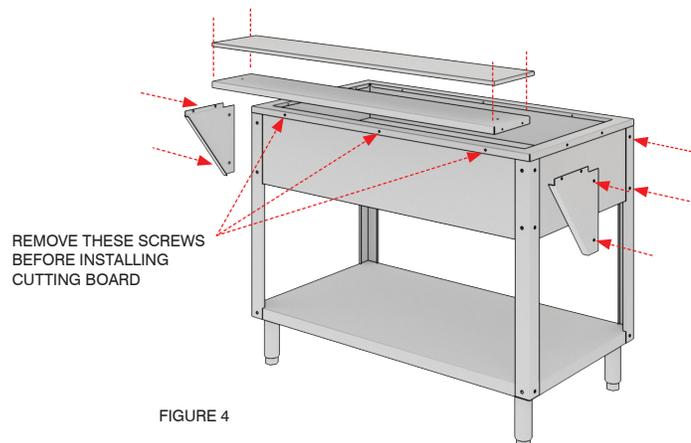

FIGURE 4
4. Poly Cutting Board Assembly. Remove the screws along operator side holding the top to the box. These will be used to strengthen the cutting board. Install the cutting board brackets on the ends of the main box as shown in figure 4. Use $\frac{1}{4}$ -20 x $\frac{1}{2}$ " screws. Tighten completely.